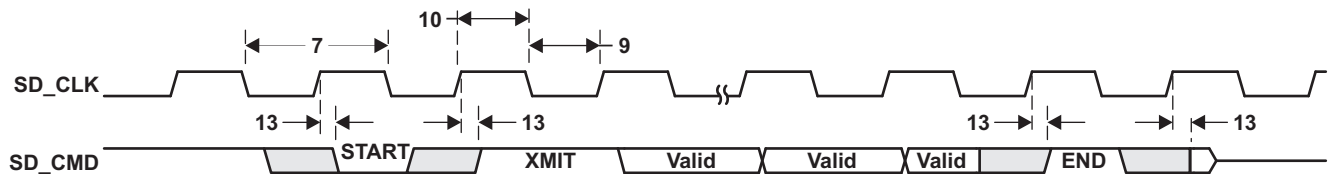
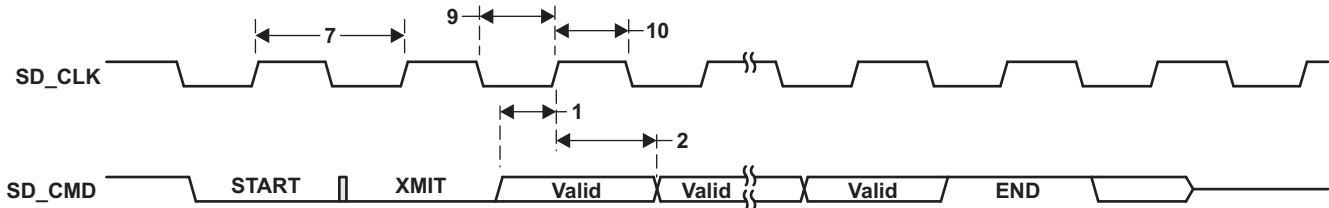
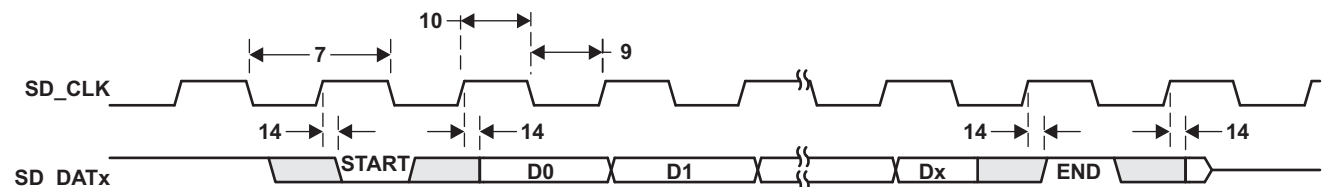
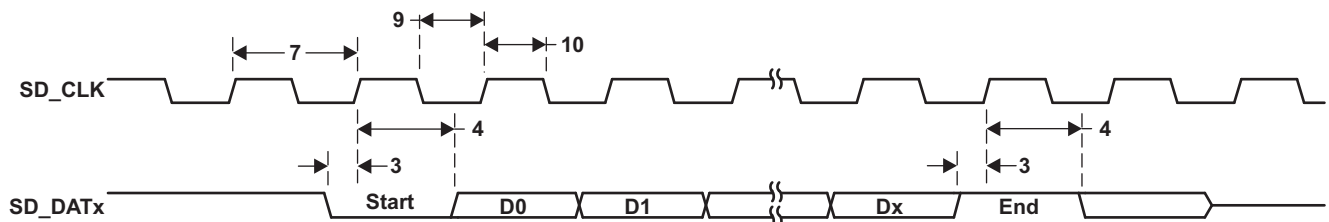

Figure 8-79. SD Host Command Timing
Figure 8-80. SD Card Response Timing
Figure 8-81. SD Host Write Timing
Figure 8-82. SD Host Read and Card CRC Status Timing
8.16.2 SD and SDIO Electrical Data and Timing**8.16.2.1 SD Identification and Standard SD Mode****Table 8-91. Timing Requirements for SD and SDIO—SD Identification and Standard SD Mode**(see Figure 8-80, Figure 8-82)
Table 8-92. Switching Characteristics Over Recommended Operating Conditions for SD and SDIO—SD Identification and Standard SD Mode(see Figure 8-79, Figure 8-80, Figure 8-81, Figure 8-82)
(1) P = SD_CLK period.
8.16.2.2 High-Speed SD Mode**Table 8-93. Timing Requirements for SD and SDIO—High-Speed SD Mode**(see Figure 8-80, Figure 8-82)
(see Figure 8-79, Figure 8-80, Figure 8-81, Figure 8-82)